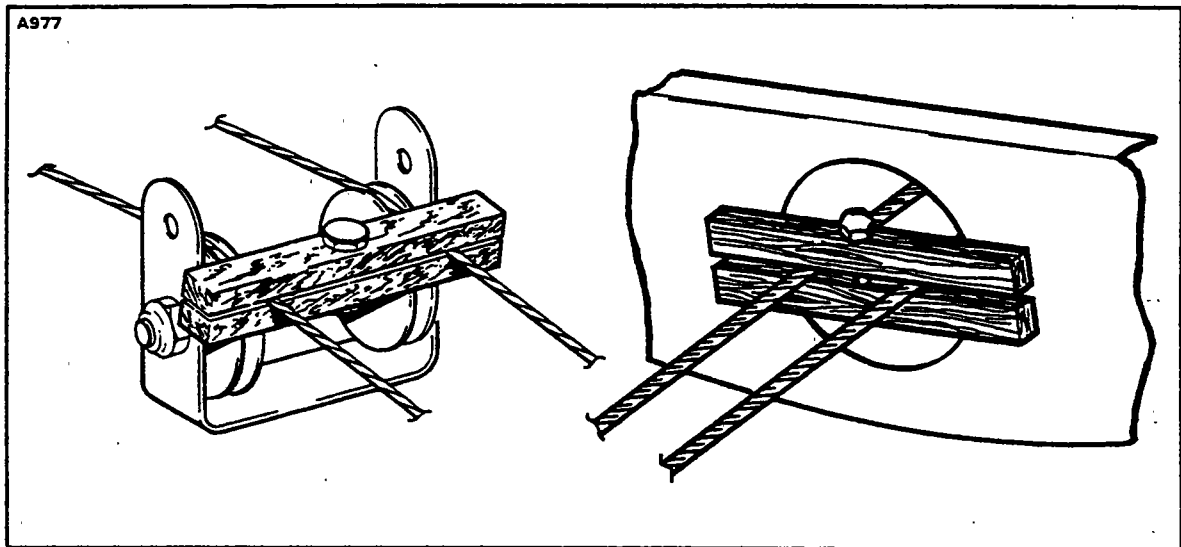

Figure 5-10. Methods of Securing Trim Cables
- e. Install a cable block on the aft trim control cables, as shown in Figure 5-10.
- (a) Block the first set of pulleys forward of the cable turnbuckles (8) in the aft section of the fuselage by the method shown in Figure 5-10.
2. Attach the horizontal (20) and diagonal support ribs to the aft bulkhead of the fuselage with bolts, washers and nuts. Start nuts only a few threads so as to allow ribs to hang loose. Do not connect the ribs at this time.
3. Wrap the trim barrel (21). To do this, first lay the center (as measured equally from each end to the center of the cable) of the trim cable in the slot of the barrel. Bring the upper cable through the diagonal slot in the flange at the upper end of the barrel and wrap down in a counterclockwise direction. Bring the lower cable through the diagonal slot in the lower end of the barrel and wrap up in a clockwise direction. Wrap the cable as evenly as possible to obtain 23 wraps on the barrel as viewed from the side opposite the slot and with the cables extending out from the slotted side.
4. Block both cables by clamping them between two pieces of wood laid next to the wraps to prevent them from unwrapping. (Refer to Figure 5-10.)
7. Install the trim screw (11) in the barrel and secure each end with a cotter pin through the screw.